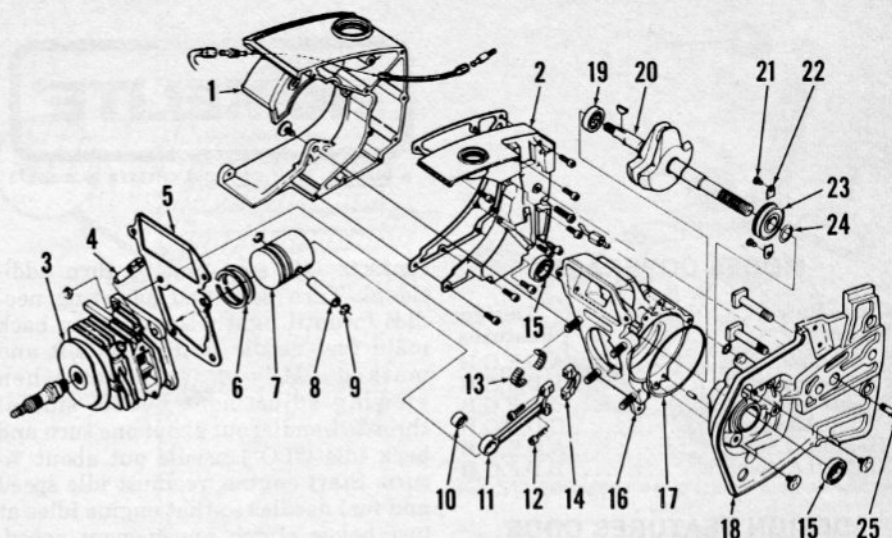

Fig. HL7—Exploded view of typical engine assembly. A head land piston ring is used on EZ Automatic model in place of rings (6) shown.
CRANKSHAFT, BEARINGS AND SEALS. Crankshaft is supported by a roller bearing (19—Fig. HL7) mounted in crankcase bore and by a ball bearing (23) mounted in drive-case (18).
When throttle lock is pushed in, a lever connected to throttle lock lifts away from compression release valve (4—Fig. HL7). When engine is cranked, compression forces valve open and compression is partly relieved through port in cylinder. Squeezing throttle trigger after engine is running releases throttle lock, allowing spring (11—Fig. HL1) to snap lever against release valve, closing the valve.